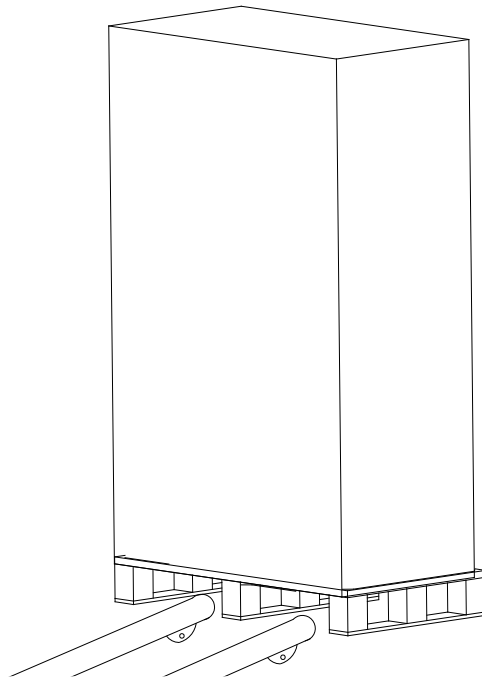

Fig.2-4 Transport to the designated site
2. Transport the equipment to the designated site by forklift, as shown in Fig.2-4.